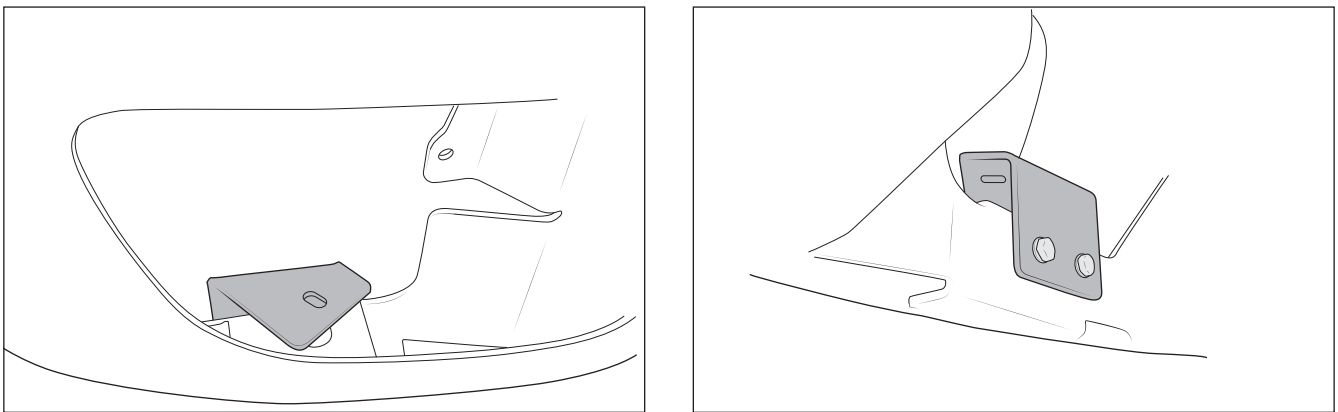

Figure 37
1. Install AEV light brackets to bumper corners with supplied hardware (fig. 37).